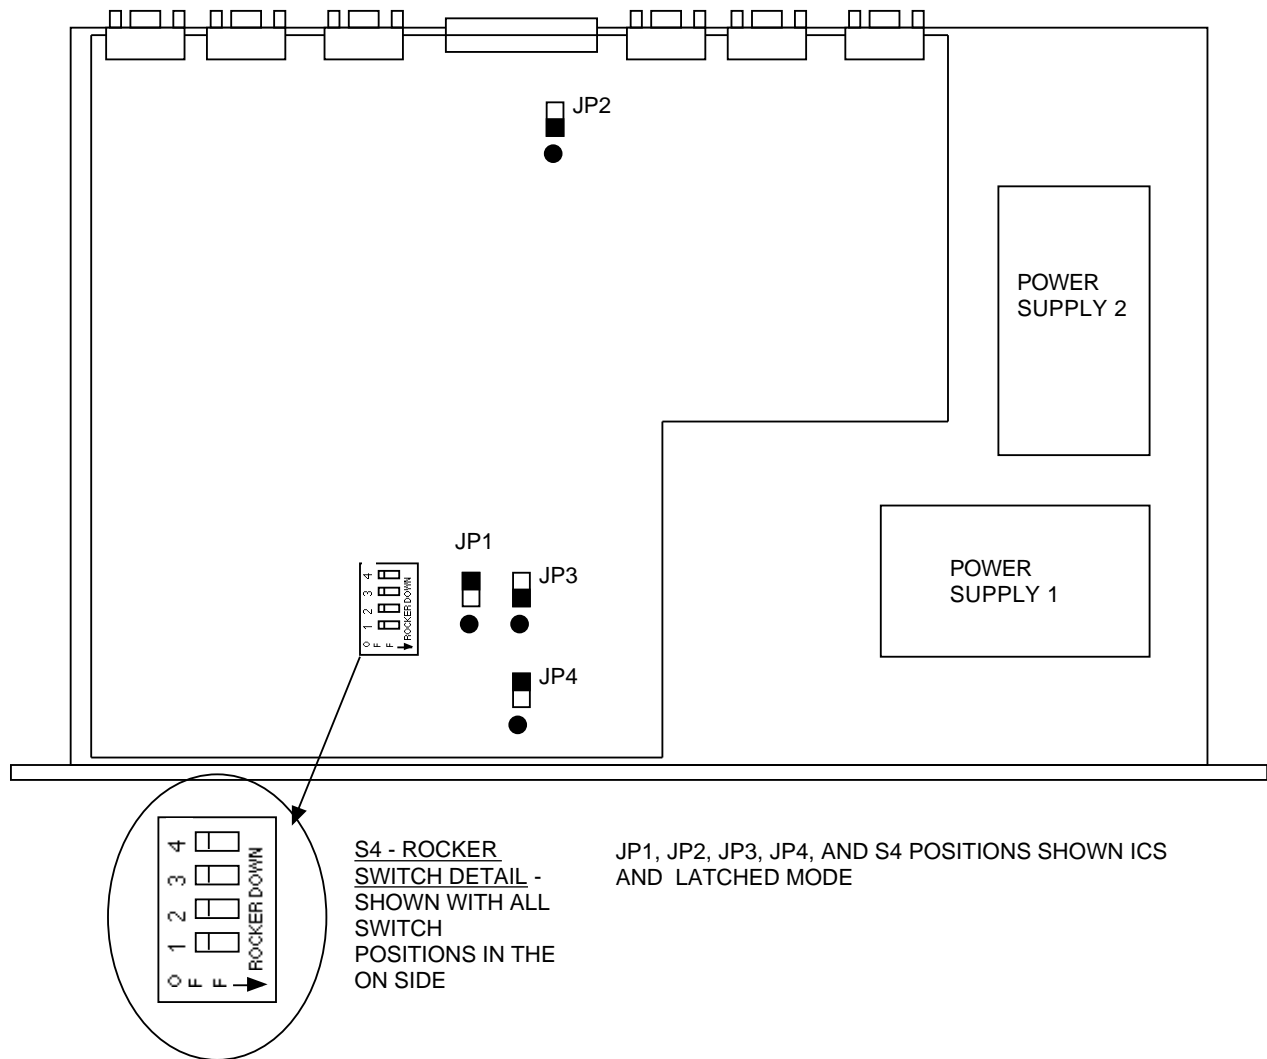

FIGURE 2.3 PCB SETTINGS PARTS LOCATIONS
- a. Set the on board controls as desired (Tables 2.2, 2.3, Figure 2.3).